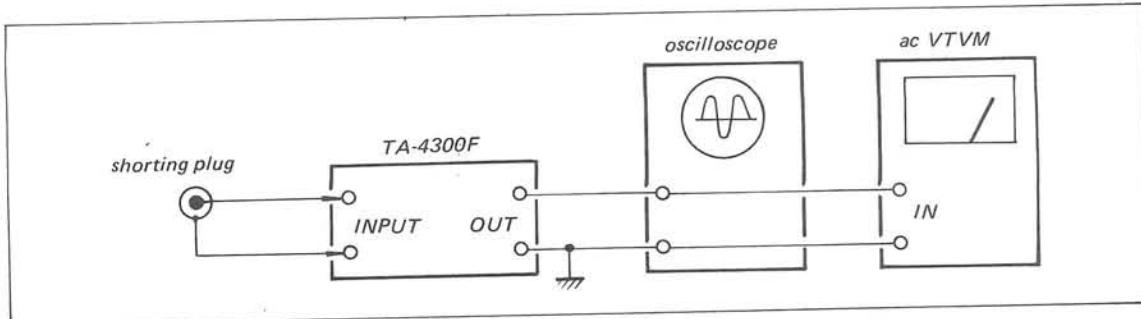

Fig. 3-4 Noise level check test setup
- With the equipment connected as shown in Fig. 3-4, measure each OUTPUT jack's noise level with a VTVM as directed in the Table 3-4.